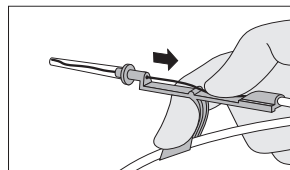

Figure 2
- Using thumb, retract "J" (refer to Figure 2).